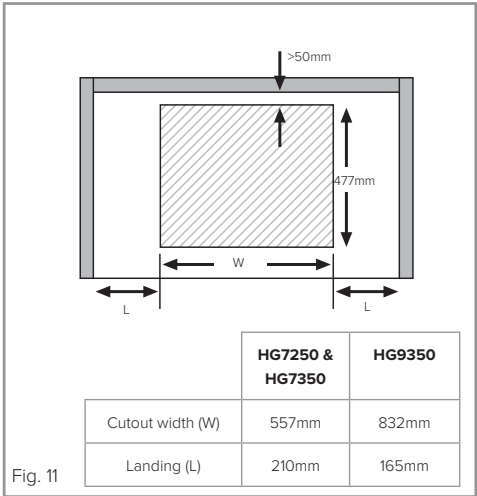

Fig. 11
This appliance must be installed in accordance with the dimensions in Fig. 11 on page 21 of this manual and a minimum of 150mm away from any adjacent vertical surfaces, e.g. a tall cupboard end panel. This may be reduced to 100mm if the adjacent surface is resistant to fire (tiles or steel, for example). These dimensions are shown in Fig. 11.
1. Make the required hole in the worktop. Note that before doing this, check the instructions supplied with any cooker hood to ensure that you will have the required clearance. The cut-out (Fig. 11) shows a minimum 50mm gap from the wall or splashback, if fitted, to the cut-out edge.